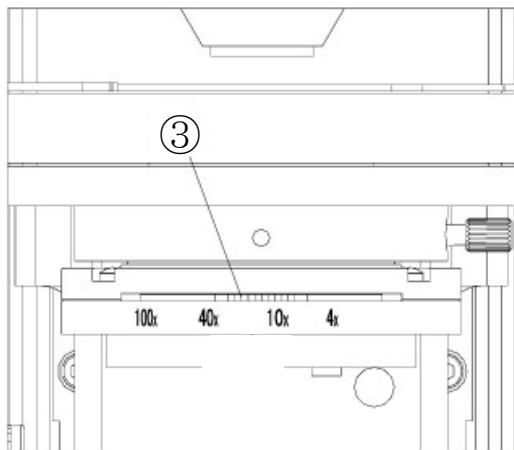

Fig. 11
The aperture size is increased or decreased by rotating the condenser aperture diaphragm lever ③. When the aperture is closed, the brightness and resolution are decreased but the contrast and range of focus are increased. If the aperture diaphragm is opened, the brightness and resolution are increased; however, the contrast and range of focus are diminished. For optimal viewing conditions set the condenser aperture diaphragm lever to match the magnification of the objective in the optical path (Fig. 11).